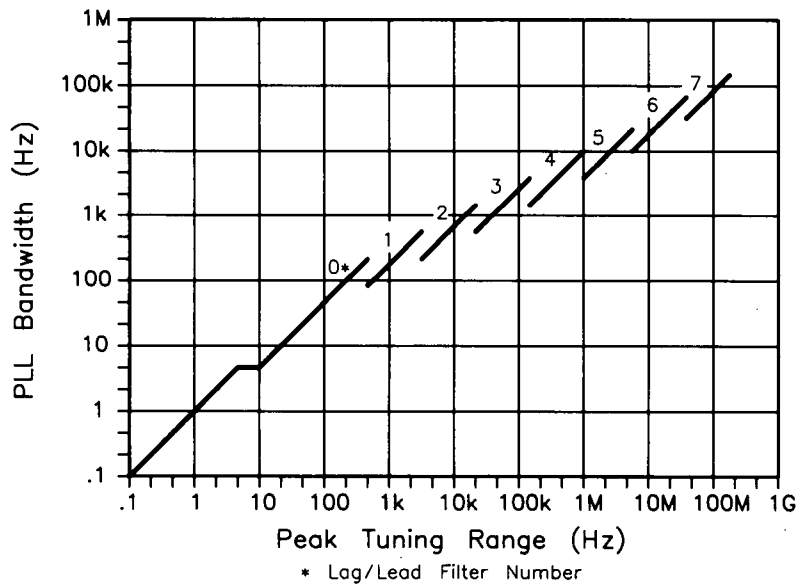

Figure 3-35. Phase Lock Loop Bandwidth as a Function of the Peak Tuning Range of the Measurement.
4	<p>Unable to close the Phase Lock Loop.</p> <p>Action: There are several possible conditions that can prevent the HP 3048A from being able to close the phase lock loop. These conditions and the actions recommended for verifying them are listed below in the order of probable cause.</p> <ol style="list-style-type: none">1. The system is not able to tune the beatnote to within the Capture Range set for the measurement. This possibility can be minimized by carefully following the Checking the Beatnote procedure provided in each measurement example in Chapter 3 of this manual. If an oscilloscope is available, you will find that connecting the scope to the AUX MONITOR port on the HP 11848A allows you to continuously monitor the beatnote throughout the measurement. By aborting this measurement and reinitiating a New Measurement, you can observe the beatnote as the HP 3048A attempts to close the phase lock loop (a message will appear in the HP 3048A's display to let you know when this is happening). The beatnote frequency, as seen on the scope, should decrease and then go to zero (dc). Watching the beatnote's response as the system attempts to adjust it to 0 Hz can provide clues about tuning problems that may exist.2. The beatnote drifted beyond the system's Capture Range before the HP 3048A was able to acquire lock. For further information on verifying the frequency stability of the beatnote, refer to Tracking Frequency Drift in Chapter 3 of this manual.3. The VCO Tuning Constant entered for the measurement was not within a factor of 2 of the actual Tuning Constant, and the HP 3048A was not configured to measure the Tuning Constant for verification. For details on verifying the Tuning Constant of your VCO, refer to Estimating the Tuning Constant in Chapter 3 of this manual.4. The Peak Tuning Range set for the measurement is > 10 MHz and is causing the loop dynamics to be non-linear. When this condition exists, the non-linear response of the beatnote as the system attempts to close the phase lock loop can often be seen on an oscilloscope connected to the AUX MONITOR port on the HP 11848A.5. One of the sources is being injection locked as the HP 3048A is tuning the beatnote to 0 Hz. (Refer to Minimizing Injection Locking in Chapter 3 of this manual for recommended actions.)6. The modulation bandwidth of the VCO source's tuning port is not wide enough to provide adequate phase margin for the system's phase lock loop (PLL). The VCO's modulation bandwidth (the upper frequency limit of the VCO's tuning port) should be greater than approximately ten times the PLL bandwidth set for the measurement. PLL bandwidth is shown as a function of the Peak Tuning Range (PTR) in Figure 3-35. (The PTR for the measurement is determined by multiplying the VCO's Tuning Constant by its Voltage Tuning Range.)
- Decrease the PLL bandwidth to 1/10 the VCO's modulation bandwidth by decreasing the Peak Tuning Range (PTR) for the measurement. Use Figure 3-35 to determine the PTR required. The PTR can be reduced by decreasing the Tuning Voltage Range value entered. Divide the required PTR by the VCO's Tuning Constant to determine the appropriate Voltage Tuning Range to enter. (Keep in mind that reducing the PTR limits the HP 3048A's Frequency Drift Tracking Range for the measurement. For further information about changing the PTR, refer to *Changing the PTR* in Chapter 3 of this manual.)